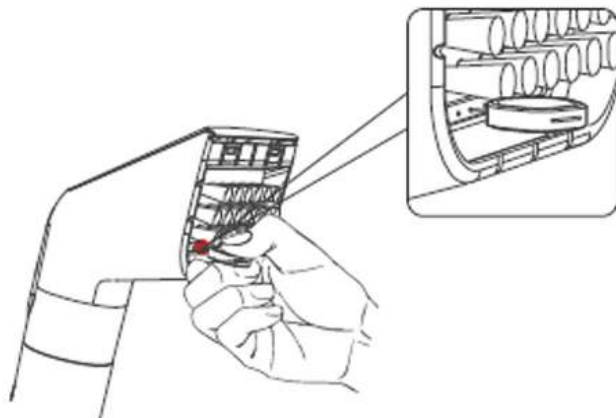

Fig. 35
7. After the handle of the brush is installed well, if the the brush head can not spray water or there is irregular water-spraying condition when you work with the appliance again, please clean the water hole of the brush head with the following tool in time (see Fig.35).